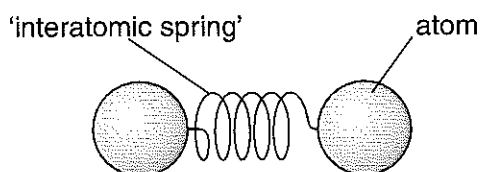

Fig. 7.1
- 7 (a) Atoms in a solid are held in position by electrical forces. These electrical forces can be represented by an imaginary 'interatomic spring' between neighbouring atoms, see Fig. 7.1.